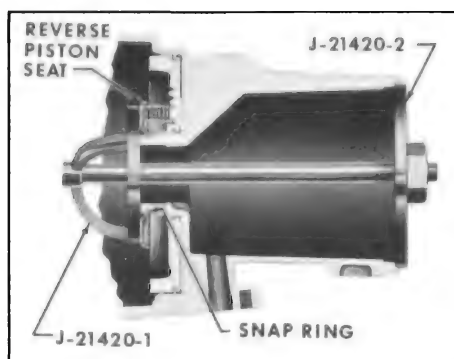

Figure 5-300
6. Using J-21420-1 and J-21420-2 compress piston return seat so snap ring may be installed with J-5586 Pliers. See Figure 5-300.